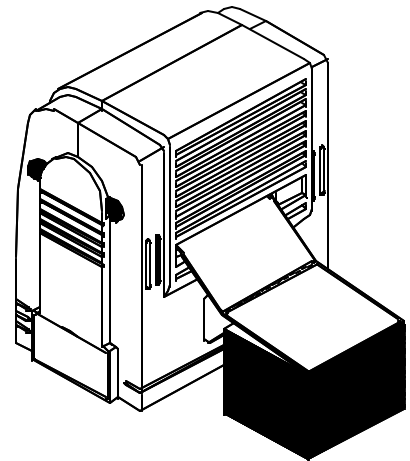

Fig. 2.3.4
8. Close the front cover and back cover (see figure 2.3.4).